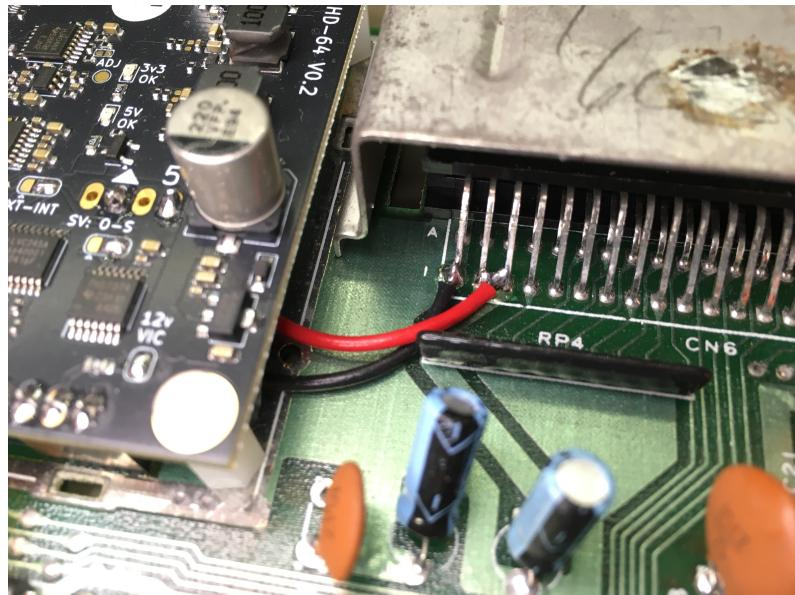

Figure 6. HD-64 Longboard Power Supply
4. Solder the supply wires to the **expansion port** power supply pins like shown in Figure 6, making sure that: